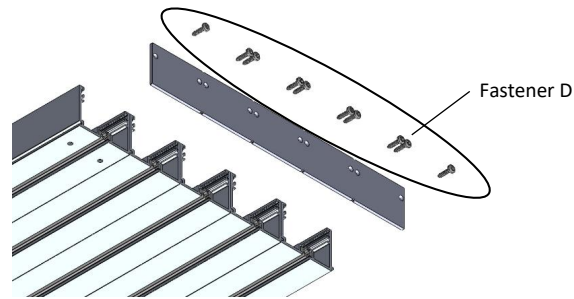

Figure 6
- 3.1 With the tracks held together with the cable ties, install the head track end cap using #8 x 5/8" pan head SS fasteners (D) (see Figure 6).